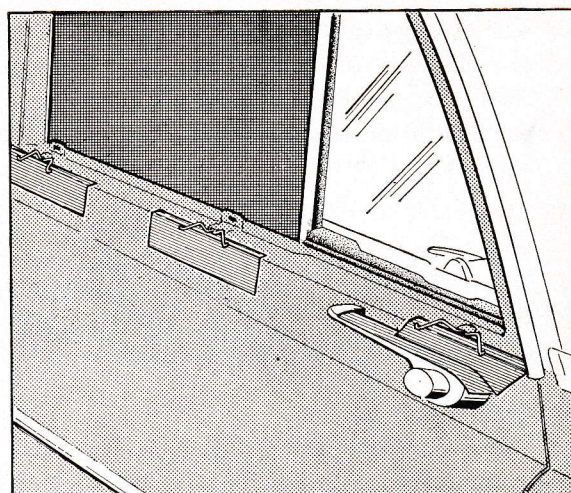

Fig. 38. Placing spring clips.
3. If necessary, new spring clips can be placed in as shown in Fig. 38.